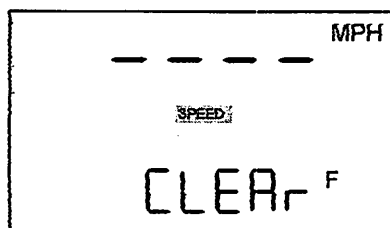

Figure 15. Initial Speed Measurement Screen
5. Release the **TRIGGER**. The display will change to the Speed Measurement Screen, see Figure 15 on page 23.
5. Release the **TRIGGER** and the **BACKLIGHT** button. The display will change to the Speed Measurement Screen, see Figure 15 on page 23.
When you power ON the UltraLyte LR B, the screen display should look similar to Figure 15.